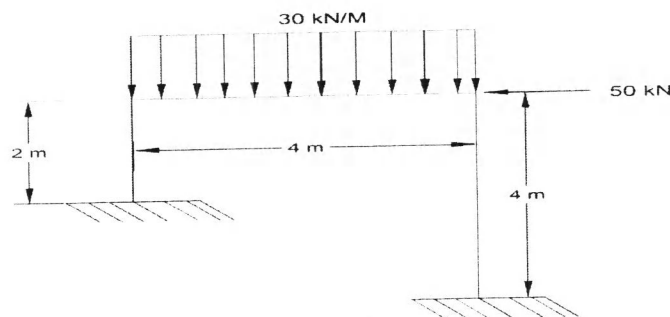

Figure 6
7. Analyse the portal frame ABCD shown in Figure 6 by stiffness matrix method. EI is constant throughout. [6]